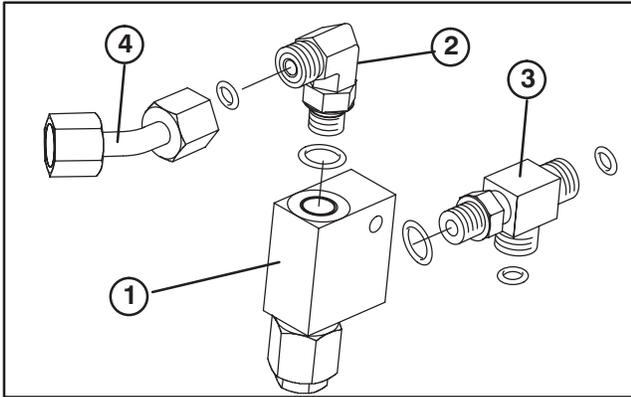

Figure 14
24. Loosely thread a 90° fitting into top port of auxiliary relief valve (Fig. 14).
25. Loosely thread a tee adapter fitting into side port of auxiliary relief valve (Fig. 14).
26. Mount the hydraulic tube to 90° fitting in top port of auxiliary relief valve (Fig. 14).